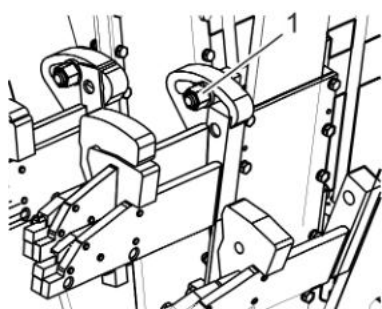

Fig. 28: Electrode carrier slide attachment
5. Check screw connection (Fig. 28/1) with an open-end wrench or ring wrench and tighten if necessary.